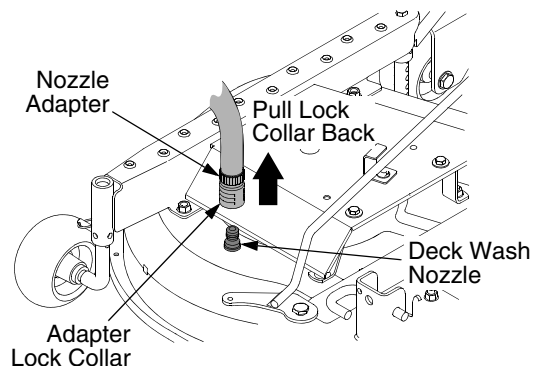

Figure 55
- Pull back the lock collar of the nozzle adapter and push the adapter onto one of the deck wash nozzles at either end of the mower deck. Release the lock collar to lock the adapter on the nozzle. See Figure 55.